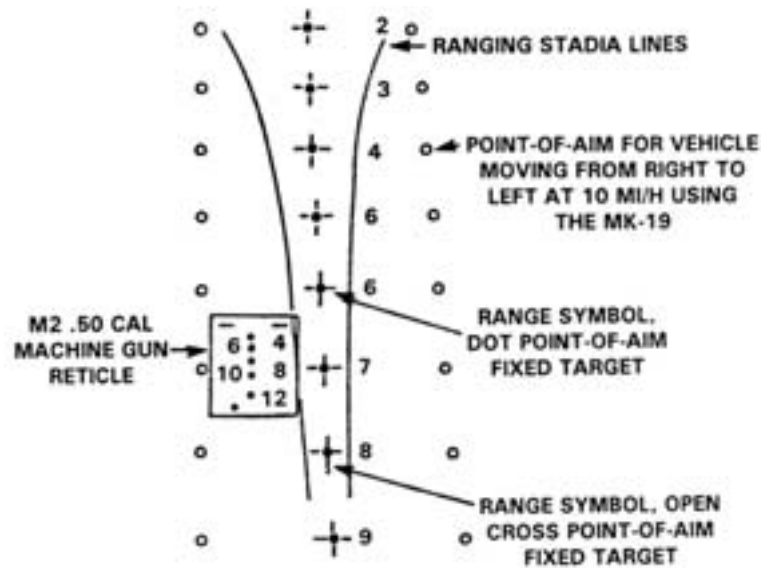

Figure 4-78. Dual-Purpose Sight (Under Development).
(2) MK-19/M2 .50 cal reticle pattern. See figure 4-78. Aiming points are the same as the M2 .50 cal/M85 reticle. The stadia lines are used to determine range to a 20-foot wide target. Manipulate the sight picture so that the target fills the space between the stadia lines in order to determine the corresponding range to the target. MK-19 aiming points for stationary targets are aligned vertically in the center of the reticle. Aiming points for a target moving 10 mph are located vertically to the left and right of the stadia lines.